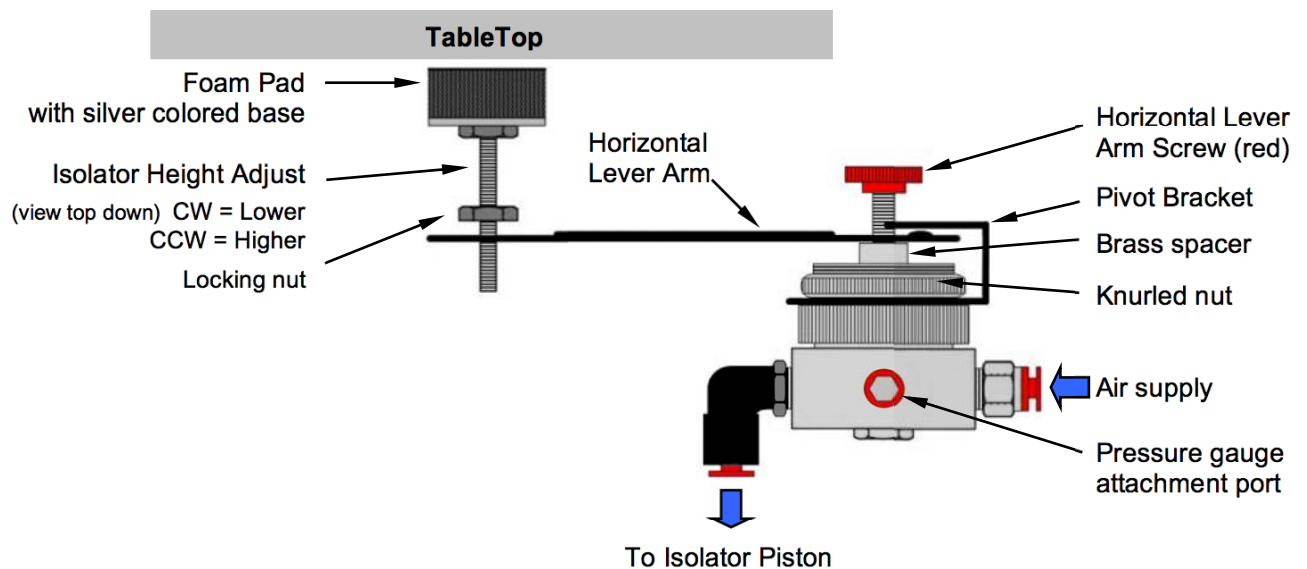

Figure 7, Height Control Valve
- Step 17** Tighten *locking nut* on **ISOLATOR HEIGHT ADJUST** for all three valves as shown in figure 7 above, *Height Control Valve*.